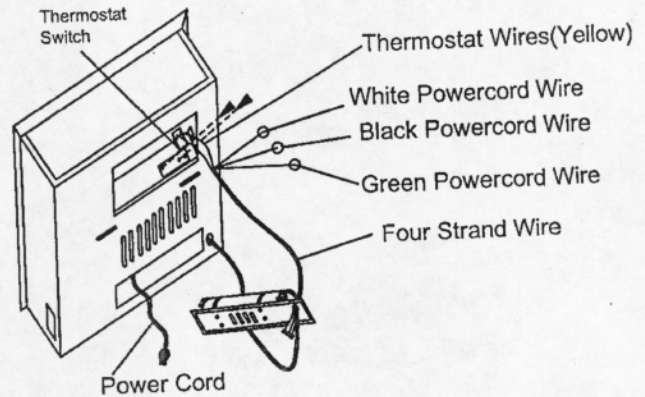

Figure7-Routing Power Cord
10. Then guide the four strand wire of downleads through the jacket hole. Connect the two yellow leads and the temperature control switch on the temperature controlled bracket together. Secure the temperature bracket on the reflect panel of firebox using two self-tapping screws (see Figure 7).